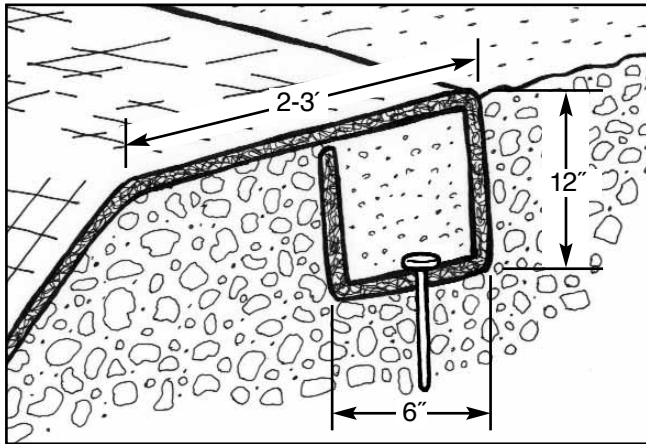

FIGURE 2
- ▶ Excavate a 12 x 6 in (300 x 15 mm) minimum longitudinal anchor trench 2-3 ft (600-900 mm) over crest of slope (see Figure 2).
- ▶ Install top end of mat into trench and secure to bottom using suggested ground anchoring devices (see Tables 1 and 2 on page 7) spaced every 12 in (300 mm) minimum. Backfill and compact soil into trench (see Figure 2).